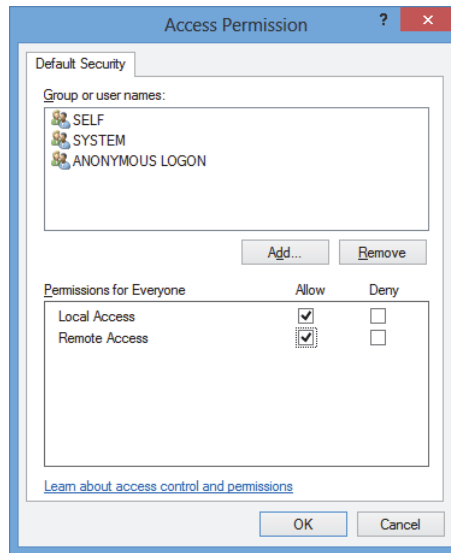

Figure 2-11 The Group or user names in the Access Permission dialog box
10. In the **Access Permission** dialog box, click **Add** (see Figure 2-11 on page 39).